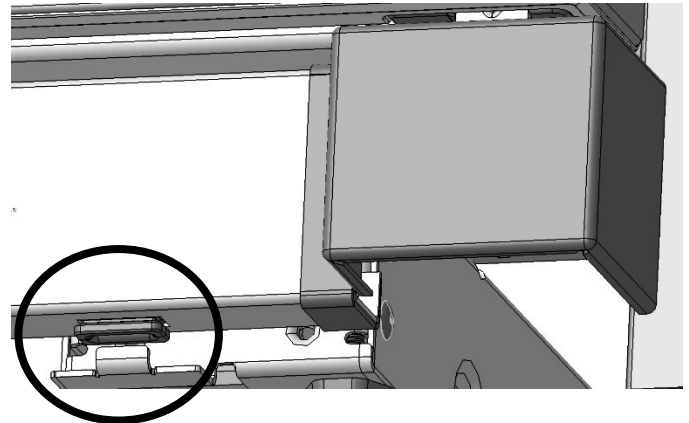
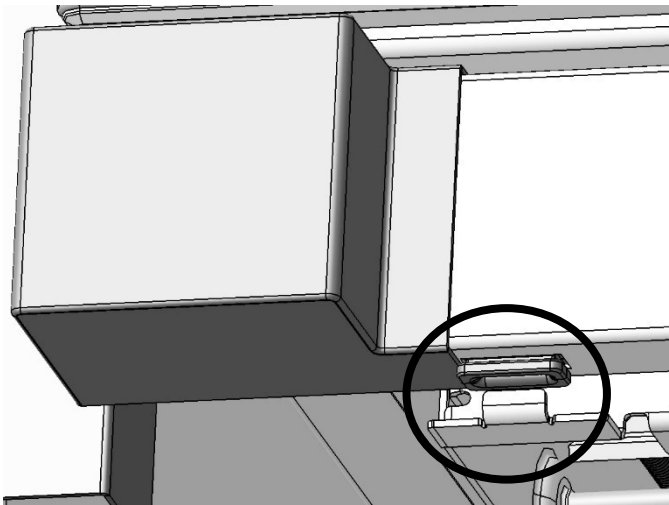

Figure 24
Figure 23
- b. Carefully place the Toe Kick over the two Leveler Assembly Slots. The first Leveler Assembly slot is circled in Figure 23, and the second Leveler Assembly slot is circled in Figure 24.